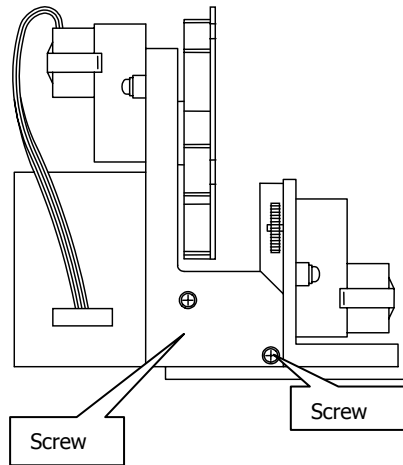

Figure 42 Filterwheel assembly securing screws
3. Remove the filterwheel assembly from its mounting by undoing and removing the two securing screws (Figure 42).